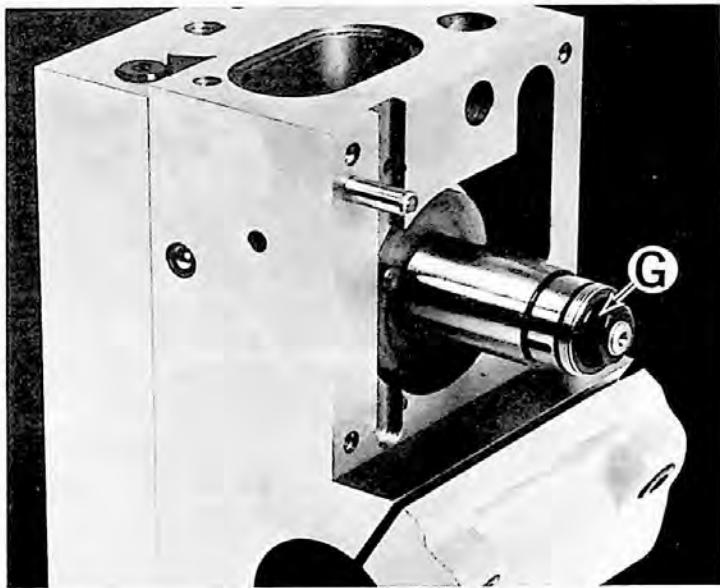
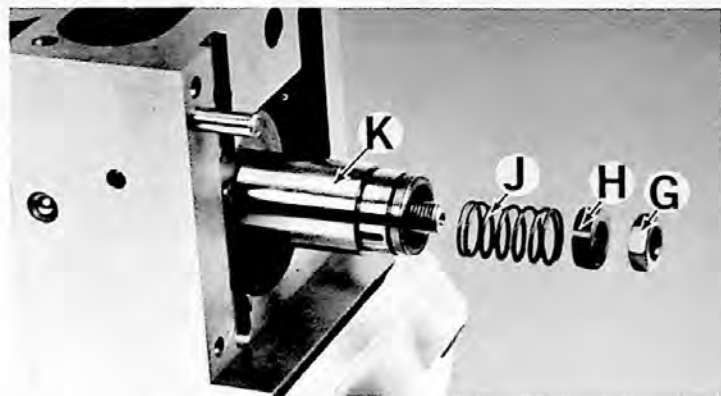
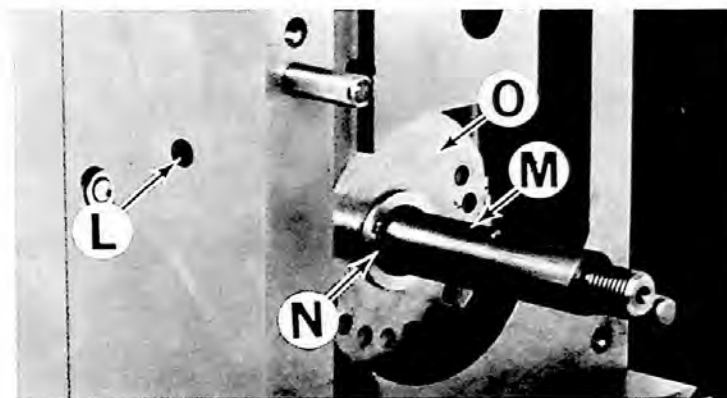

Figure 33 — Nut for Dial Sleeve
Figure 34 — Dial Sleeve and Components
Figure 35 — Ratchet and Stop Screw
12. Remove nut "G", Figure 33. Remove spring retainer "H", Figure 34, and remove spring "J" and dial sleeve "K".
13. Remove screw "L", Figure 35, and loosen stop screw under screw "L" until ratchet releases. Remove key "M", Figure 35 and retaining ring "N".
6. Replace retaining ring "N", Figure 35, and replace key "M".
7. Replace dial sleeve "K", Figure 34. Turn dial sleeve and ratchet "O", Figure 35, three full turns to the right. Hold ratchet and turn stop screw in hole "L" in until it prevents ratchet spring from unwinding.
8. Replace spring "J", Figure 34, spring retainer "H" and nut "G". Tighten nut "G" by turning until contact is made with stop screw in hole "L", Figure 35.
16. Pull and set white dial as close to 70 as it will engage. Turn stop screw in hole "L", Figure 35, to bring the 70 graduation line to the center of zero plug in cover. Replace lock screw in hole "L".